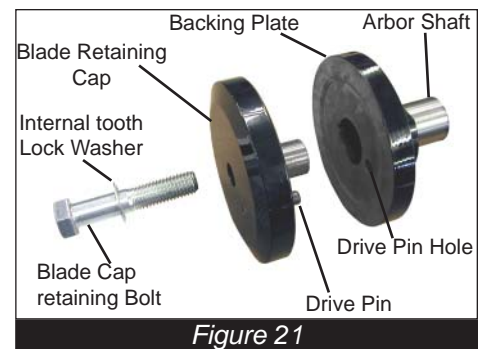

Figure 21
- Clean the arbor shaft, backing plate, and blade retaining cap and inspect for damage or wear. Make sure the blade retaining bolt threads are clean and undamaged, see (Figure 21). If any damage is detected, consult your EDCO dealer or EDCO factory.
- Carefully place blade retaining cap on blade with drive pin aligned in drive pin hole on blade, turn blade until the drive pin lines up with the drive pin hole in the backing plate. (Figure 21) Do not use a blade without a drive pinhole.